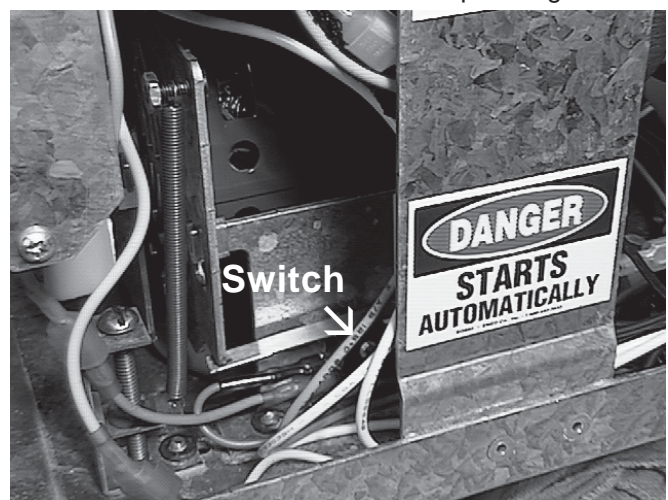

Figure 36. Torque Switch
3. Remove the two retaining screws holding the switch bracket to the floor pan. The screws can be accessed from under the floor pan. Figure 36.